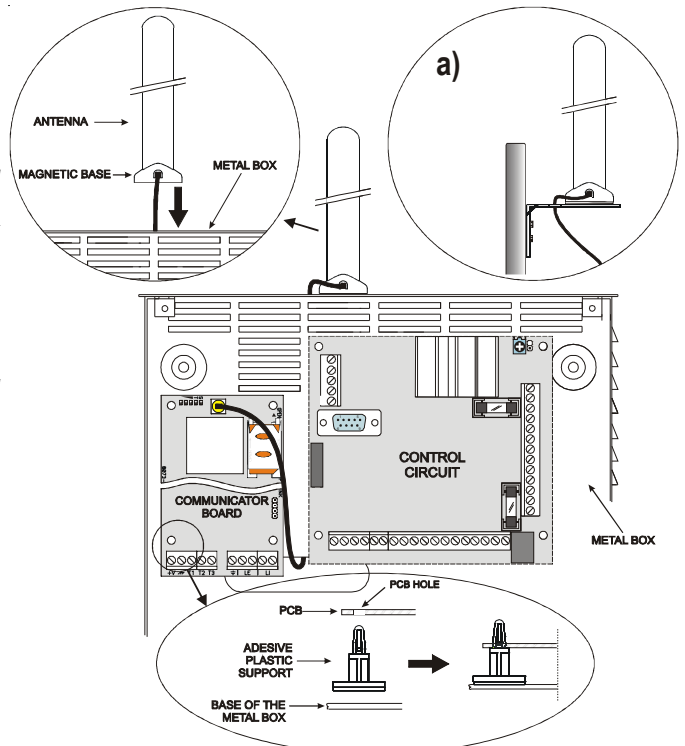

Fig. 2 - Mounting of electronic card inside the control panel.
3. Position the 4 adhesive plastic supports [14] on the base of the metal casing, then fit the holes [7] on the Electronic board into the adhesive plastic supports, as illustrated in Figure 2.
- 4a. Fix the antenna with the 25 cm cable or the antenna with the 2 mt cable [1] above the metal casing (Fig.2) in such manner that the magnetic base [2] will be conjoint with the surface. Feed the antenna cable through the cable feed opening in the metal casing. For models **BGSM-100KEA** or **BGSM-120KEA** it is possible to use the metal support [13] could be used, see Fig.2a. Fix the metal support [13] by using the holes [12] on an adequate prop. Fix the antenna with the 25 cm cable or the antenna with the 2 mt cable [1] above the metal support [13] (Fig.2a), in such manner that the magnetic base [2] will be conjoint with the surface. Pass the antenna lead through the hole [11] in the metal support [13].